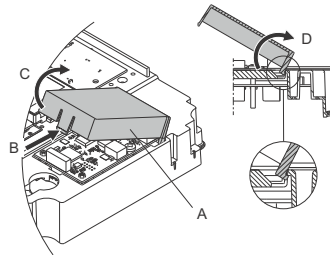

Fig. 60 Removing the CIM cover
2. Remove the CIM cover (fig. 60, A) by pressing the locking tab (fig. 60, B) and lifting the end of the cover (fig. 60, C). Then lift the cover off the hooks (fig. 60, D).